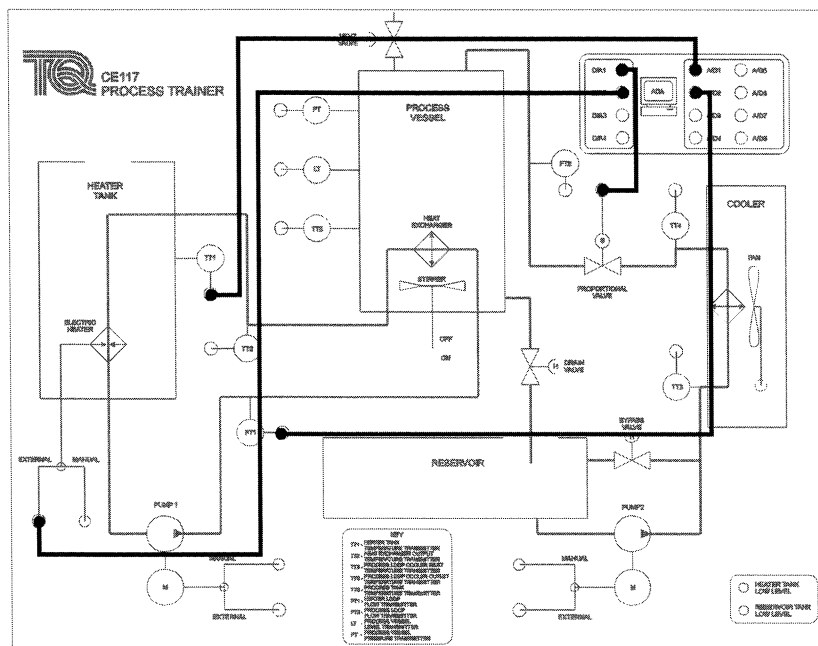

Figure 68 Connections for Experiment 5
- 2) Connect the CE117 Mimic Panel as shown in Figure 68. Analogue signals will pass to the ADA section from the temperature transmitter TT1. The software will instruct the ADA section to pass 10 V to the proportional valve to keep it fully open. The software will display the temperature in the heater tank and the flow in the heater loop.